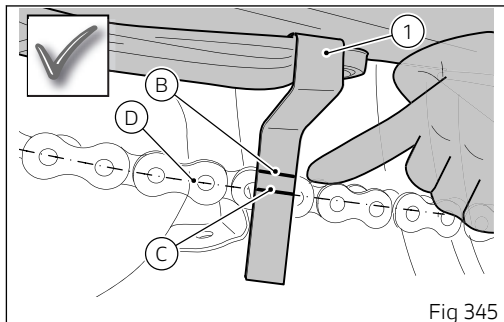

Fig 345
If the axis (D) of the chain pins is in line with the notch (C) or between (B) and (C) of the gauge (1), the chain is correctly tensioned, (see Fig 345).